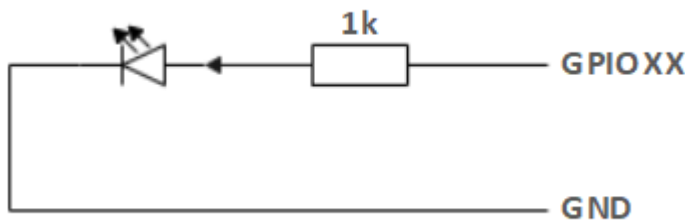

Figure 2.1.5.2-3
5. If a GPIO is set to output mode, it outputs a high-level signal, and the circuit connection is shown in Figure 2.1.5.2-3, and the LED light will light up.
1. The other function tables of the function interface are shown in Figure 2.1.5.2-4. When other functions are used, the IO function is not available.